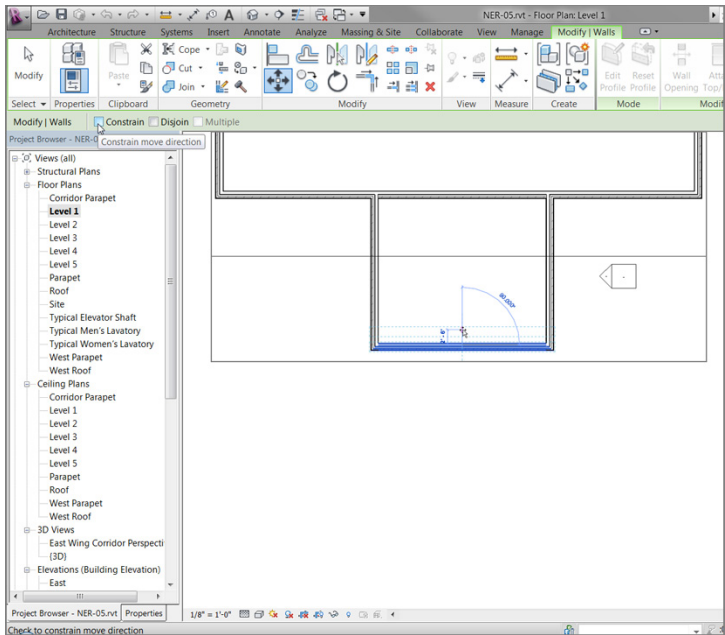

FIGURE 4.2 : Choices on the Options bar. The first point has been picked, and the wall is being moved up.
6. To start moving the item, you must first pick a base point for the command. Pick a point somewhere toward the middle of the wall, as shown in Figure 4.2.
7. After you pick this point, move your cursor straight up. You see a blue dimension. At this point, you have two choices: you can either eyeball the increment, or you can type the increment you want (see Figure 4.2).